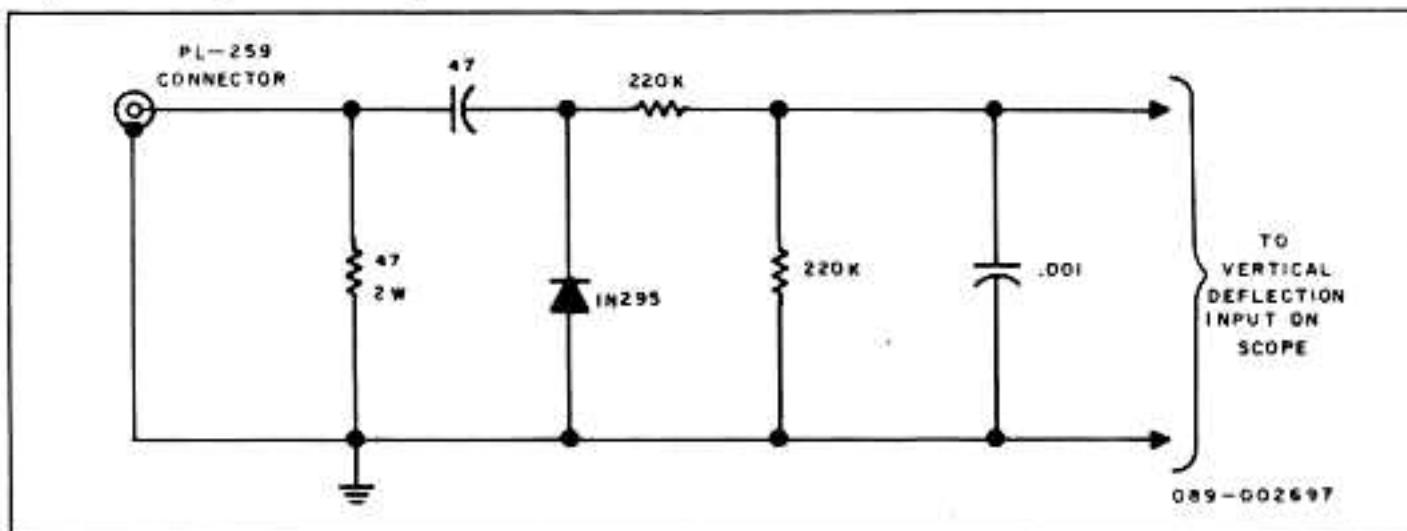

Figure 12. Diode Detector.
4. Connect the diode detector unit to the RECEIVER outlet to provide a termination for the transverter mixer output. See figure 12.